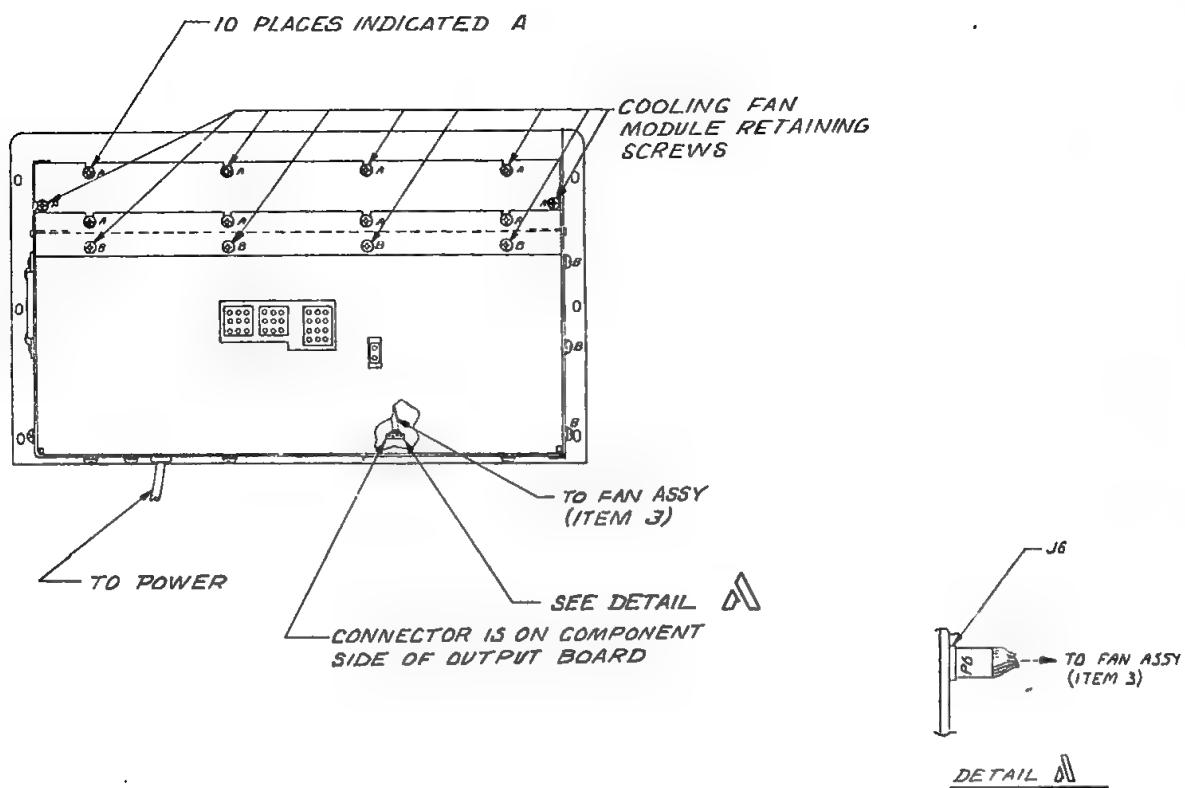

Figure 4-1. Cooling Fan Module Diagram
- d. Remove the fan housing from the power supply module by removing the 4-40 screws on the power supply fan restraint, see Figure 4-1 and